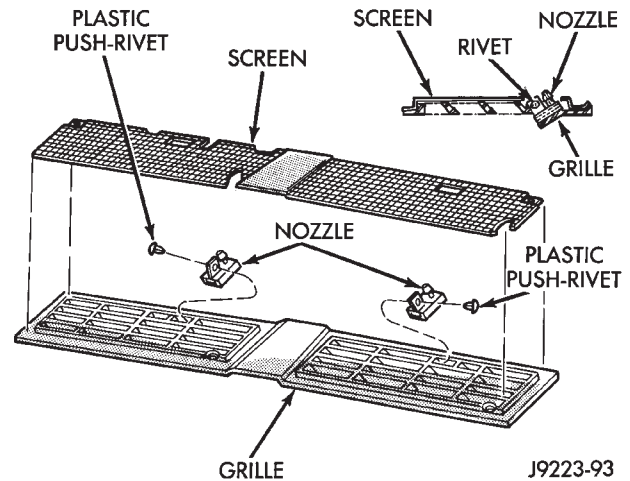

Fig. 11 Cowl Grille, Screen & Washer Nozzles
- (1) Remove the windshield wiper arms from the pivots.
- (2) Remove the screws that attach the grille to the cowl.
- (3) Remove the windshield washer tubes from the nozzles.
- (4) Remove the cowl grille and screen from the cowl (Fig. 11).